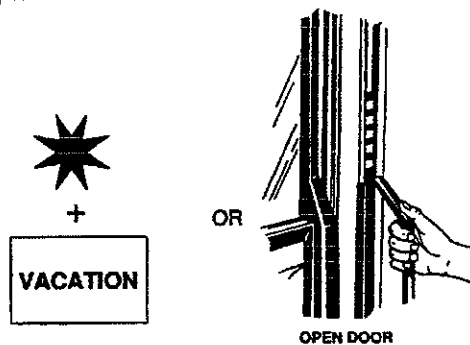

Figure 16
- b. To cancel VACATION mode, press START pad (*); press VACATION pad again OR open either freezer or refrigerator door. See Figure 16.